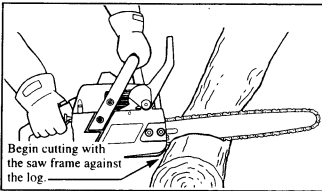

Figure 19
- Begin cutting with the saw frame against the log.** Figure 19.